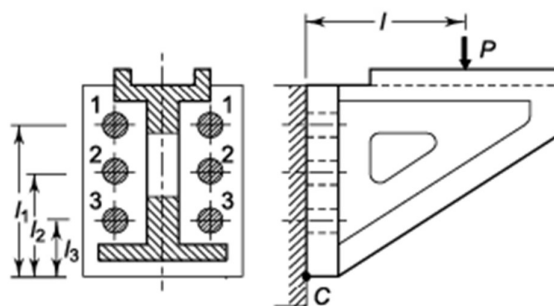

Figure 2
- Q.3(b) A bracket is fastened to the steel structure by means of six identical bolts, as shown in Figure 2. Assume the following data: $l_1 = 300 \text{ mm}$, $l_2 = 200 \text{ mm}$, $l_3 = 100 \text{ mm}$, $l = 250 \text{ mm}$, $P = 50 \text{ kN}$. Neglecting shear stress, determine the size of the bolts, if the maximum permissible tensile stress in any bolt is limited to 100 MPa.